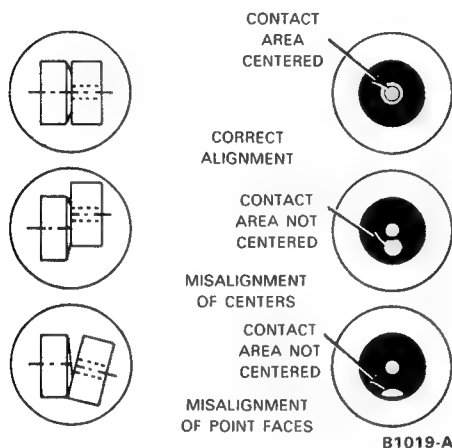

FIG. 12 Checking Breaker Point Alignment
1. Turn the cam so that the breaker points are closed, then check the alignment of the points (Figure 12).